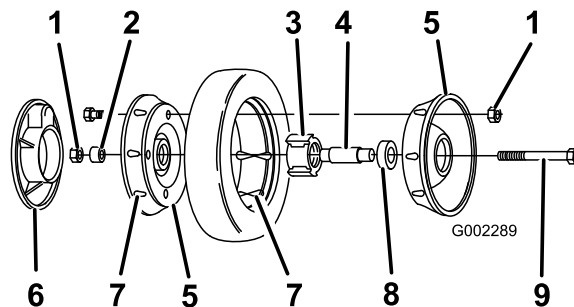

Figure 32
3. Remove the bolt, the wheel spacer, and the locknut mounting the wheel to the pivot arm (Figure 32).
4. Separate the wheel halves from the tire by removing 4 bolts and 4 locknuts (Figure 32).
Note: If you remove the bearings from the bearing/hub assembly, remove them by pressing on the bearing spacer (Figure 32).
1. Position the tire onto one wheel half, aligning the lugs on each (Figure 32).
2. Place the bearing/hub assembly into the center hole of the wheel half. Ensure that the legs of the hub are positioned over the flange of the hole (Figure 32).
3. Place the other wheel half onto the bearing/hub assembly, aligning the wheel and the tire lugs and the mounting holes (Figure 32).
4. Using 2 fully threaded screws or bolts (1/4-20 x 1.50 inch) and non-locking nuts, loosely secure the wheel halves together. Mount the screws or bolts in the opposing holes (Figure 32).
5. Check the alignment of all parts and tighten the bolts, alternating from side to side for a uniform fit, until the wheel halves are drawn together (Figure 32).
tighten. Remove the 2 long screws or bolts and replace them with 2 bolts and 2 locknuts (Figure 32).
7. Install the wheel to the pivot arm with the bolts, a spacer, and a locknut. Ensure that the spacer is positioned between the wheel hub and the pivot arm (Figure 32).